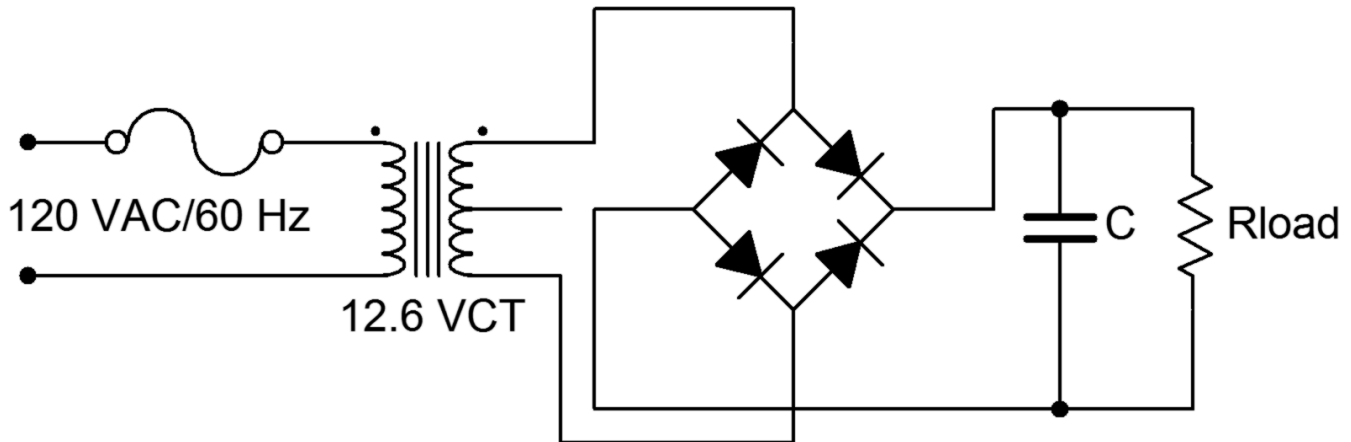

Figure 1
1. First, note that the circuit of Figure 1 is being powered directly from the AC line. Treat it with appropriate caution. It is worth repeating that any circuit should be de-energized when making any changes to it.
2. Consider the circuit of Figure 1 without the capacitor connected. For a positive polarity of secondary voltage, the upper right and lower left diodes will be forward biased and allow current to flow through the load from top to bottom. The other two diodes will be reverse biased. For a negative secondary polarity the opposite occurs. That is, the upper left and lower right pair will be forward biased while the other two are reverse biased. This arrangement will also cause load current to flow through the load from top to bottom, thus effectively flipping the negative polarity portion of the wave.
3. Build the circuit of Figure 1 with $R_{load} = 1\text{ k}\Omega$ and C disconnected (open). This represents a very lightly loaded case. Under light loads, the output of the secondary will often be a little higher than the rated potential. Set the oscilloscope input to DC coupled. Measure and record the voltage across the secondary and then across the load. Do not use two probes to do this simultaneously as these two measurements do not share a common ground. Doing so will short out a portion of the circuit. Record the results in Table 1 and capture an image of the load voltage display.